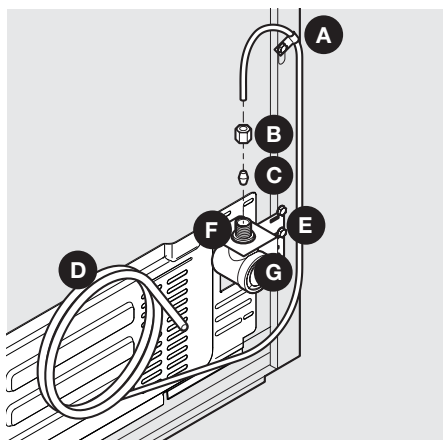

Figure 1
4. If you use copper tubing - Slide the brass compression nut, and then the ferrule (sleeve) onto the water supply line. Push the water supply line into the water valve inlet as far as it will go (1/4"/6.4 mm). Slide the ferrule (sleeve) into the valve inlet and finger tighten the compression nut onto the valve. Tighten another half turn with a wrench; **DO NOT** over tighten. See Figure 1.